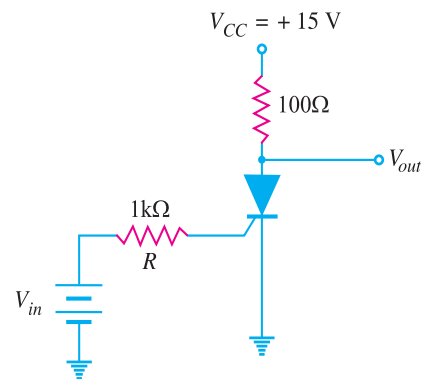

Fig. 20.25
**Example 20.12.** The SCR of Fig. 20.25 has gate trigger voltage  $V_T = 0.7\text{V}$ , gate trigger current  $I_T = 7\text{ mA}$  and holding current  $I_H = 6\text{ mA}$ .